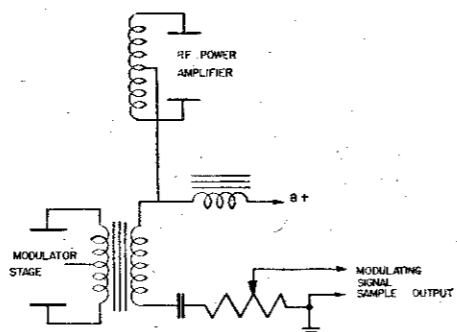

FIGURE 3-22
Step 7. Control the size of the pattern on the vertical plane by adjusting the coupling and in the horizontal plane by adjusting the volume control in the monitor circuit (Figure 3-22).
(4) Procedure: Modulated Wave Pattern—